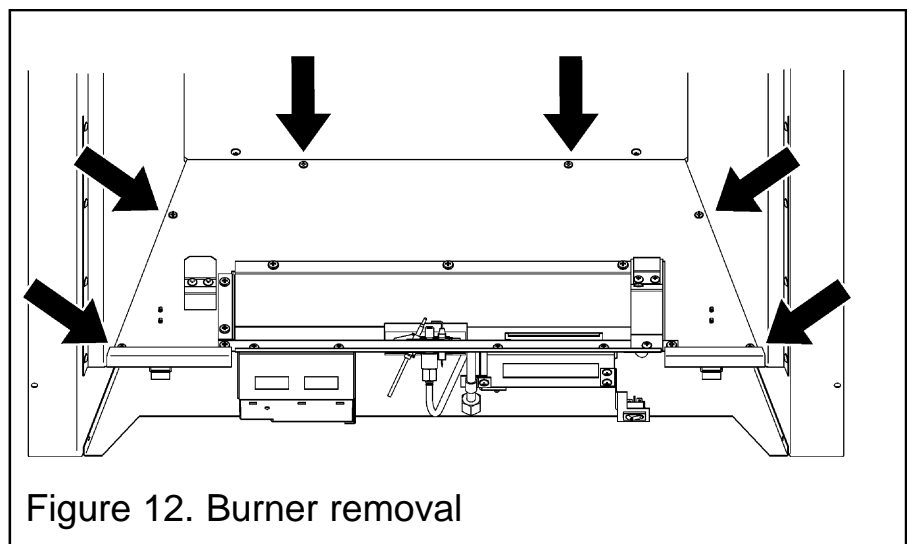

Figure 12. Burner removal
1. Detach the burner unit and support tray from the convection box by removing six screws (See figure 12). Lift the burner unit clear.